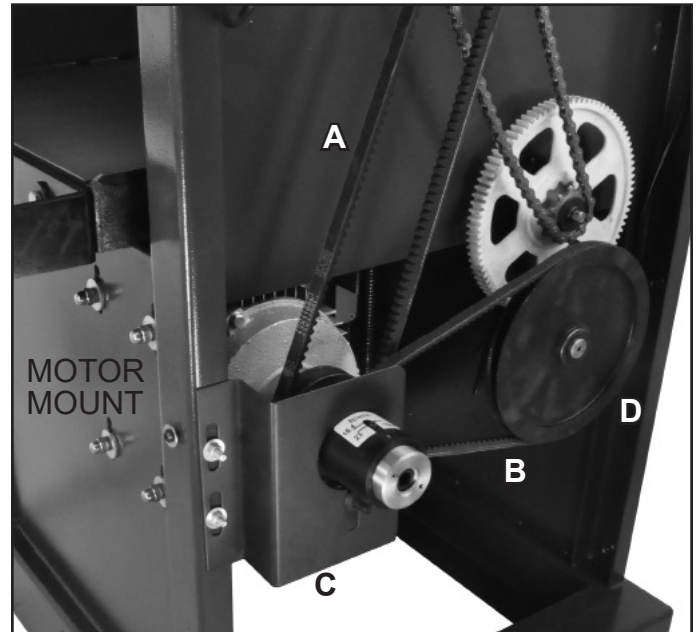

FIG. 24
1. To replace the *Cutterhead Drive Belt* (#145, FIG. 24, A), follow the same steps, #2-6 above (page 15) to remove the side panel and access the belts and pulleys. Loosen the tension until both the Cutterhead Drive Belt and the Feed Roller Belt (#152, B) can be easily removed from both their pulleys.